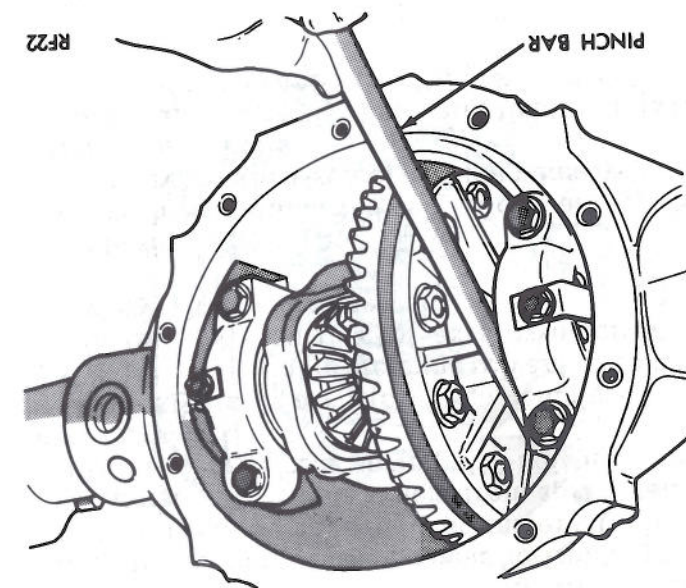

Fig. 9—Checking Differential Side Play (Typical)
(5) Loosen and remove housing cover screws, and remove cover to drain lubricant.
(6) Using a suitable cleaning solvent wash and clean inside the axle housing and differential case and drive assembly.
(7) Turn differential case to make differential pinion lock screw accessible and remove lock screw and pinion shaft. Push both axle shafts toward center of vehicle and remove "C" locks from recessed groove of axle shaft. Reinstall pinion shaft and lock screw.
(8) Remove axle shafts from housing being careful not to damage the straight roller type axle shaft bearing which will remain in the housing. Side play and runout checks taken during disassembly will be very useful in reassembly.
(9) Measure for differential side play. Position a screwdriver or pinch bar between left side of axle housing and differential case flange, then using a prying motion determine if side play is present. There should be no side play. (Fig. 9).